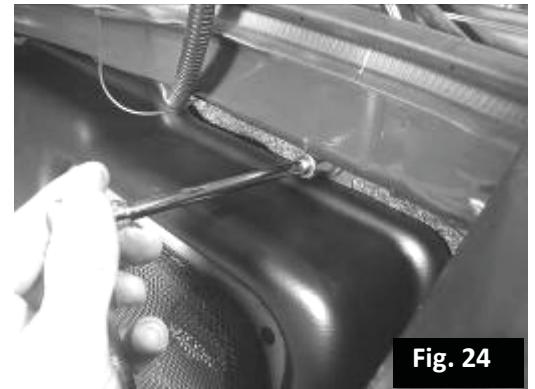

Fig. 24
40. Slowly rotate the subwoofer into place. Line up the top bracket with the hole near the tail light and reinstall and tighten the bolt. Fig. 24
*If you continue to experience problems after troubleshooting, please contact KICKER Technical Support at (800) 256-0808 ext. 6009, or **support@kicker.com**.*